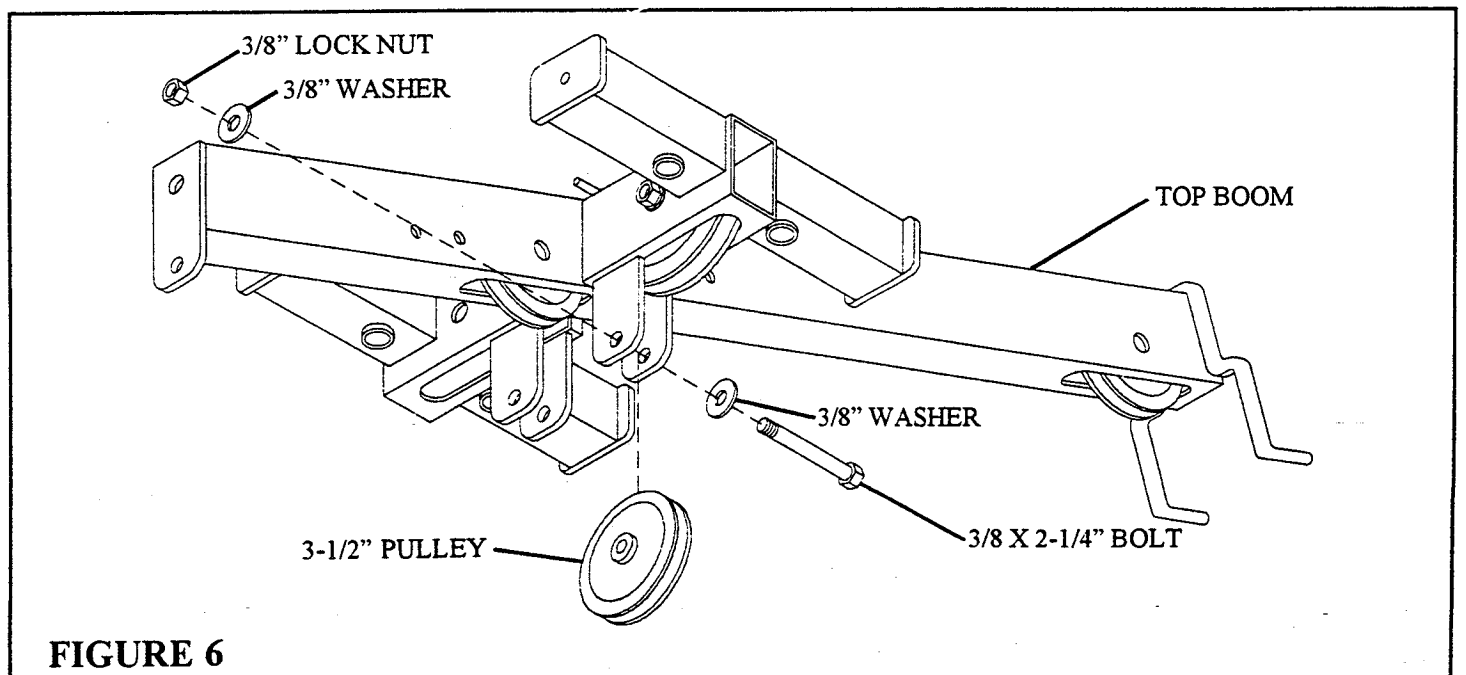

FIGURE 6
- Remove the existing 3-1/2" PULLEY, 3/8 X 2-1/4" BOLT, 3/8" WASHERS, and 3/8" LOCK NUTS from the TOP BOOM. They will be used later. See FIGURE 6..